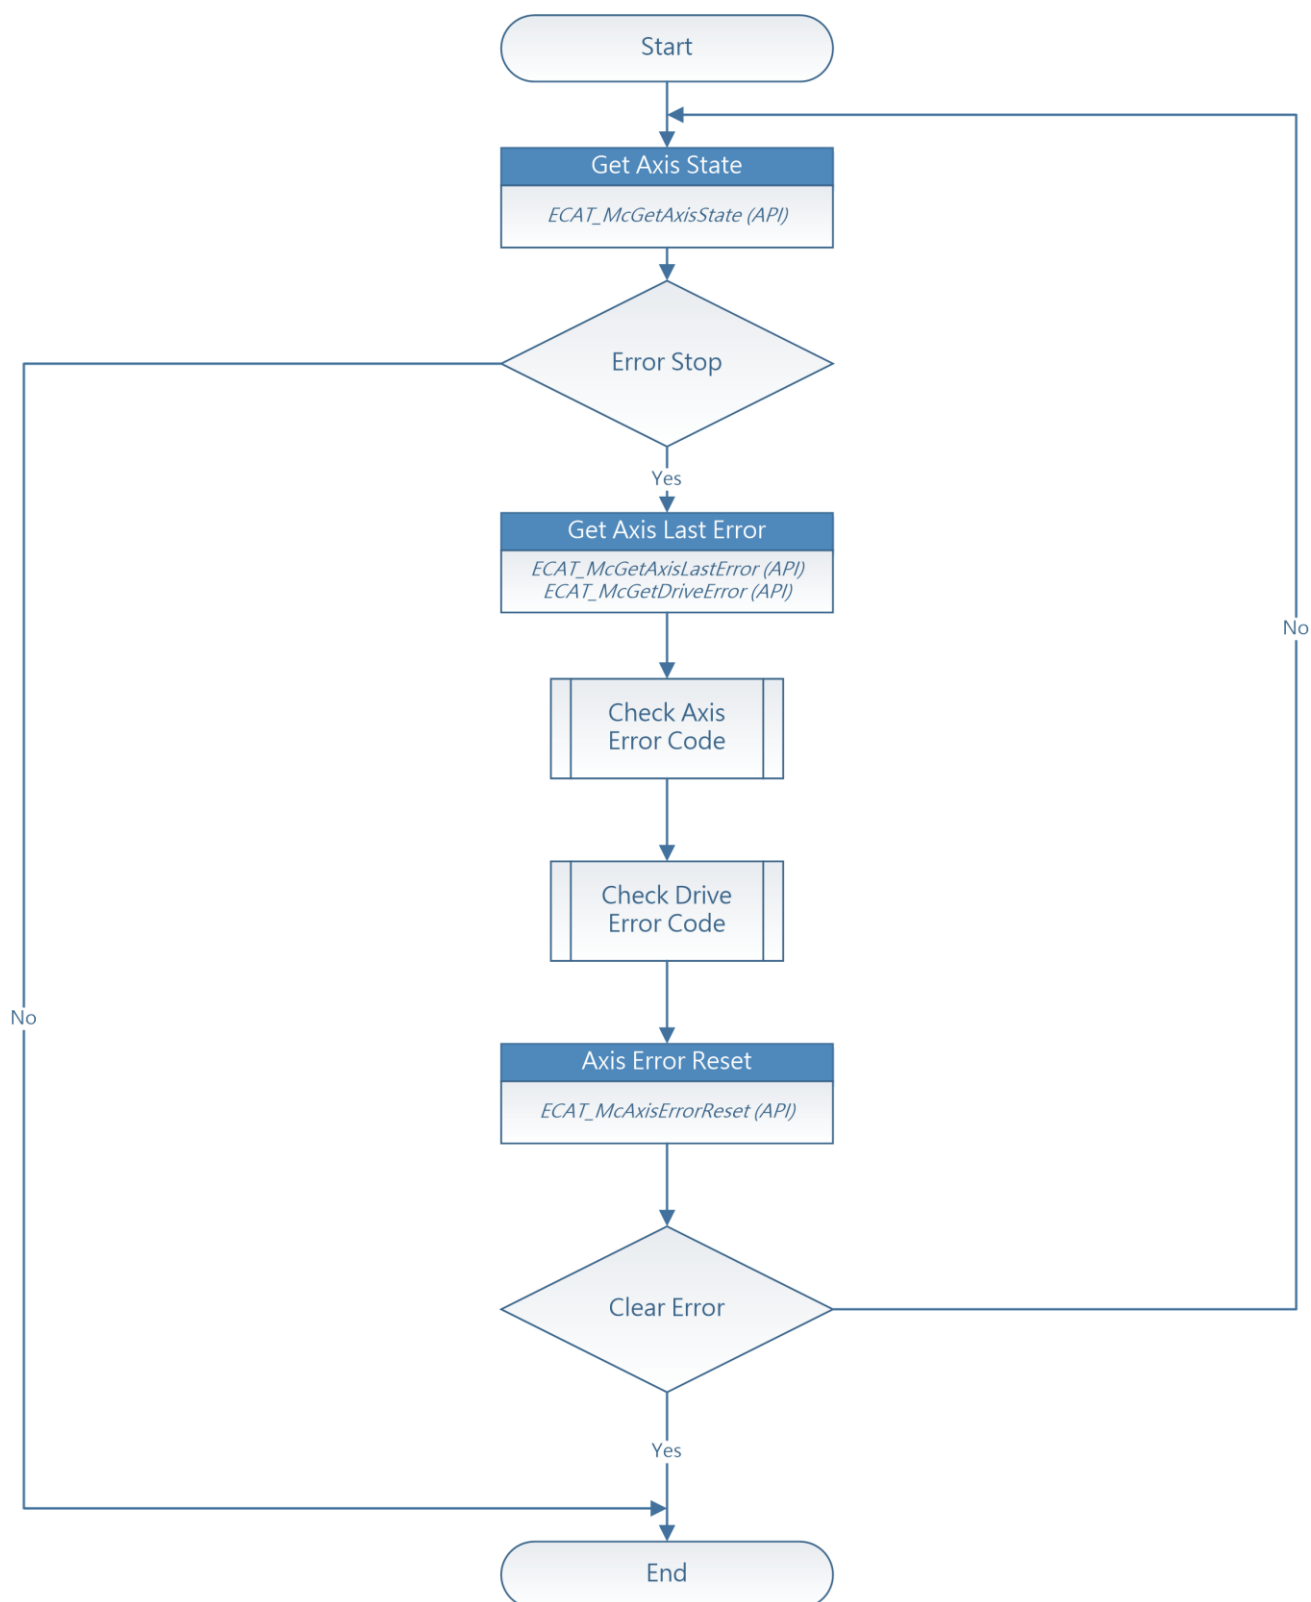

Figure 4.6
As shown in Figure 4.6, when the axis state is *ErrorStop*, *McGetAxisLastError* function can be used to get the error code. From the error code, the cause of error can be determined. The error handling includes two parts: (1) If the error is not a servo drive error, the user can call *McAxisErrorReset* to clear the error. The axis state will be changed from *ErrorStop* to *Standstill*. (2) If the error comes from a servo drive, *McGetAxisDriveError* function can be called to get the drive's error code, and then call *McAxisErrorReset* to clear its error. Some servo drive errors can be cleared by the reset command; but some cannot.